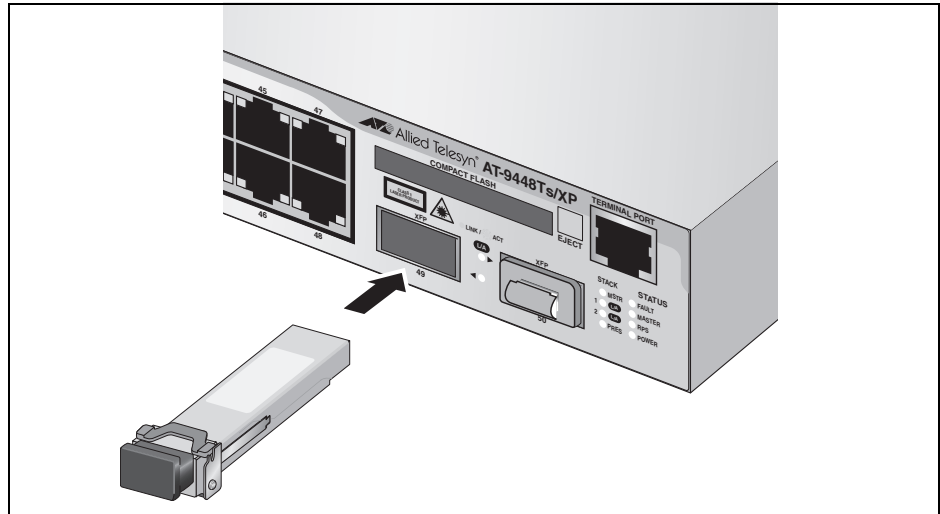

Figure 36. Installing an XFP Transceiver
4. Slide the transceiver into the slot until it clicks into place, as shown in Figure 36.